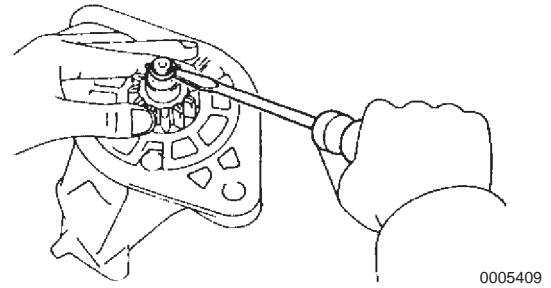

Figure 10-22
2. Pry the snap ring off using a screwdriver (**Figure 10-22**) and then disassemble the starter housing and clutch assembly.